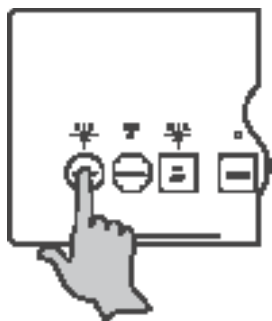

Fig. 8 Initiate a Brew
4. Remove spray disks from the brew heads (See figure 8):